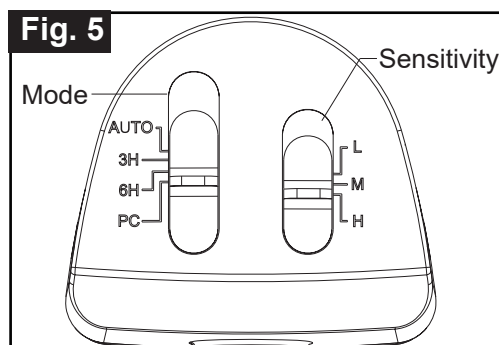

Fig. 5
- You can adjust the sensitivity of the motion sensor by using the "SENSITIVITY" selector located on the right side of the bottom surface of the sensor. (See Fig. 5)
- Adjust motion sensor sensitivity to HIGH (H), MEDIUM (M), or LOW (L) to achieve desired performance.
- Approximate range for each setting: 20 ft. (L), 45 ft. (M), 70 ft. (H).